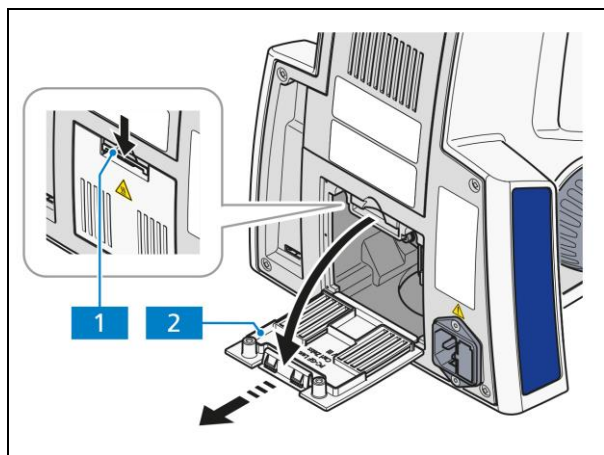

Fig. 3-15 Removing the cover
- Press the clamping jaw (Fig. 3-15/1) on the cover (Fig. 3-15/2) downwards. Swing the cover down, remove from the retaining channels on the stand and set aside.
- Insert the lower edge of the cover (Fig. 3-15/2) into the retaining channels of the stand and swing upwards until the clamping jaw (Fig. 3-15/1) locks in.